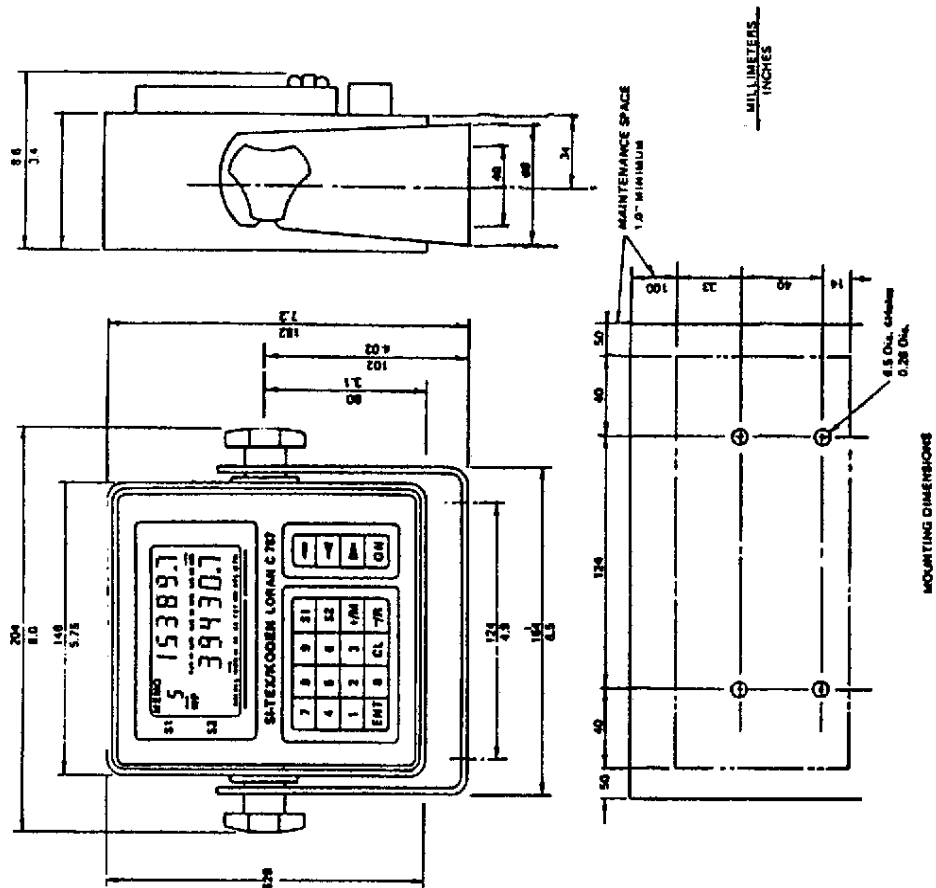

FIGURE 4. MOUNTING DIMENSIONS
- 2.1.1 Receiver Installation. Figure 4 Mounting Dimensions, illustrates the standard table-top mounting configuration with the trunnion mounting located on the bottom of the receiver. For bulkhead or overhead mounting, the trunnion must be repositioned at the top of the receiver.
1. See Figure 4 for mounting hole dimensions.